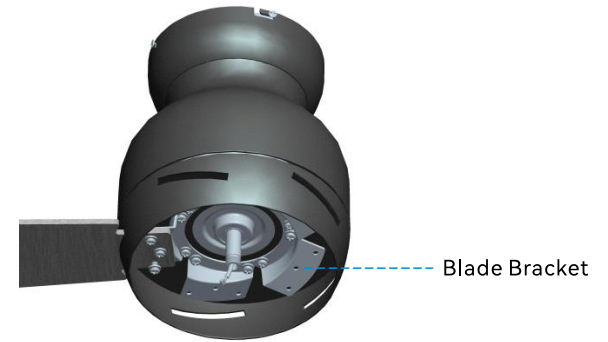

Fig 6.1
6.1 Locate 15 blade attachment screws and washers in the hardware pack. Slide the blade through the lamp cover and align the blade holes with the screw holes of the blade bracket and fasten the blade with the screws and washers as shown in Fig 6.1.